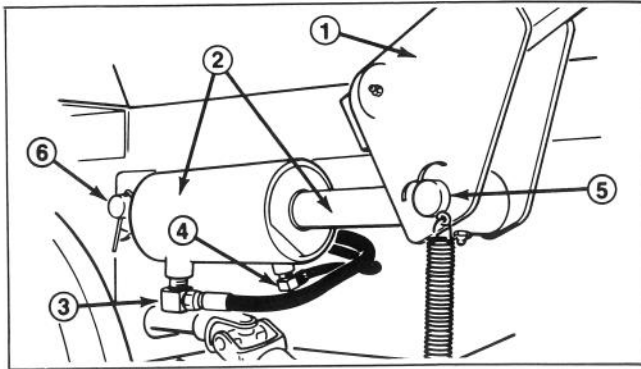

Figure 1
1. Remove the cotter pin from the front cylinder pin and remove cylinder pin from the cylinder and lift bracket (Fig. 1).
2. Disconnect hydraulic lines from lift cylinder and remove original cylinder from machine (Fig. 1).
3. Remove and retain the return line 90 degree barbed fitting from the original lift cylinder (Fig. 1).
fitting to the rear of the new lift cylinder (pressure port) (Fig. 1) Install the original 90 degree barbed fitting, removed in step 3, to the front of the new lift cylinder (return port). Orient fittings as shown in fig. 1.
7. Reconnect the return line to the lift cylinder (Fig. 1).